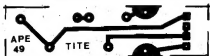

Fig.2
- FIG. 2 - LAY OUT DO CIRCUITO IMPRESSO ESPECÍFICO - Espe-